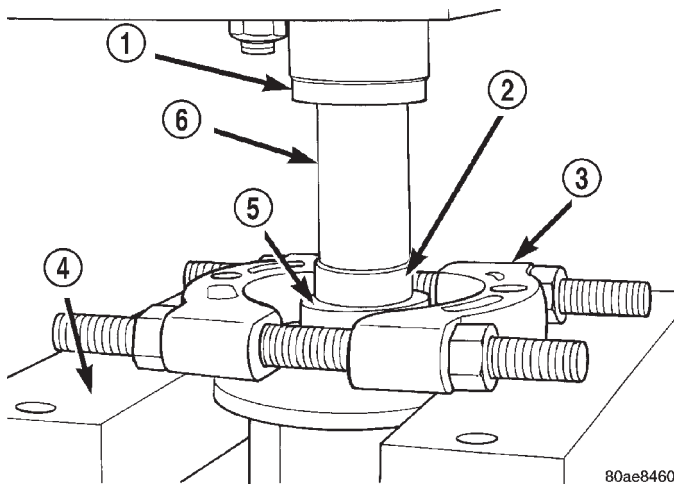

Fig. 38 Removing Bearing Race From Hub
(11) Install Bearing Splitter, Special Tool 1130, on the hub. The bearing splitter is to be installed on the hub so it is between the flange of the hub and the outer bearing race on the hub (Fig. 38). Place the hub, bearing race and bearing splitter in an arbor press as shown (Fig. 38). Place Driver, Special Tool 6644-2 on end of hub. Press the hub out of the outer bearing race.